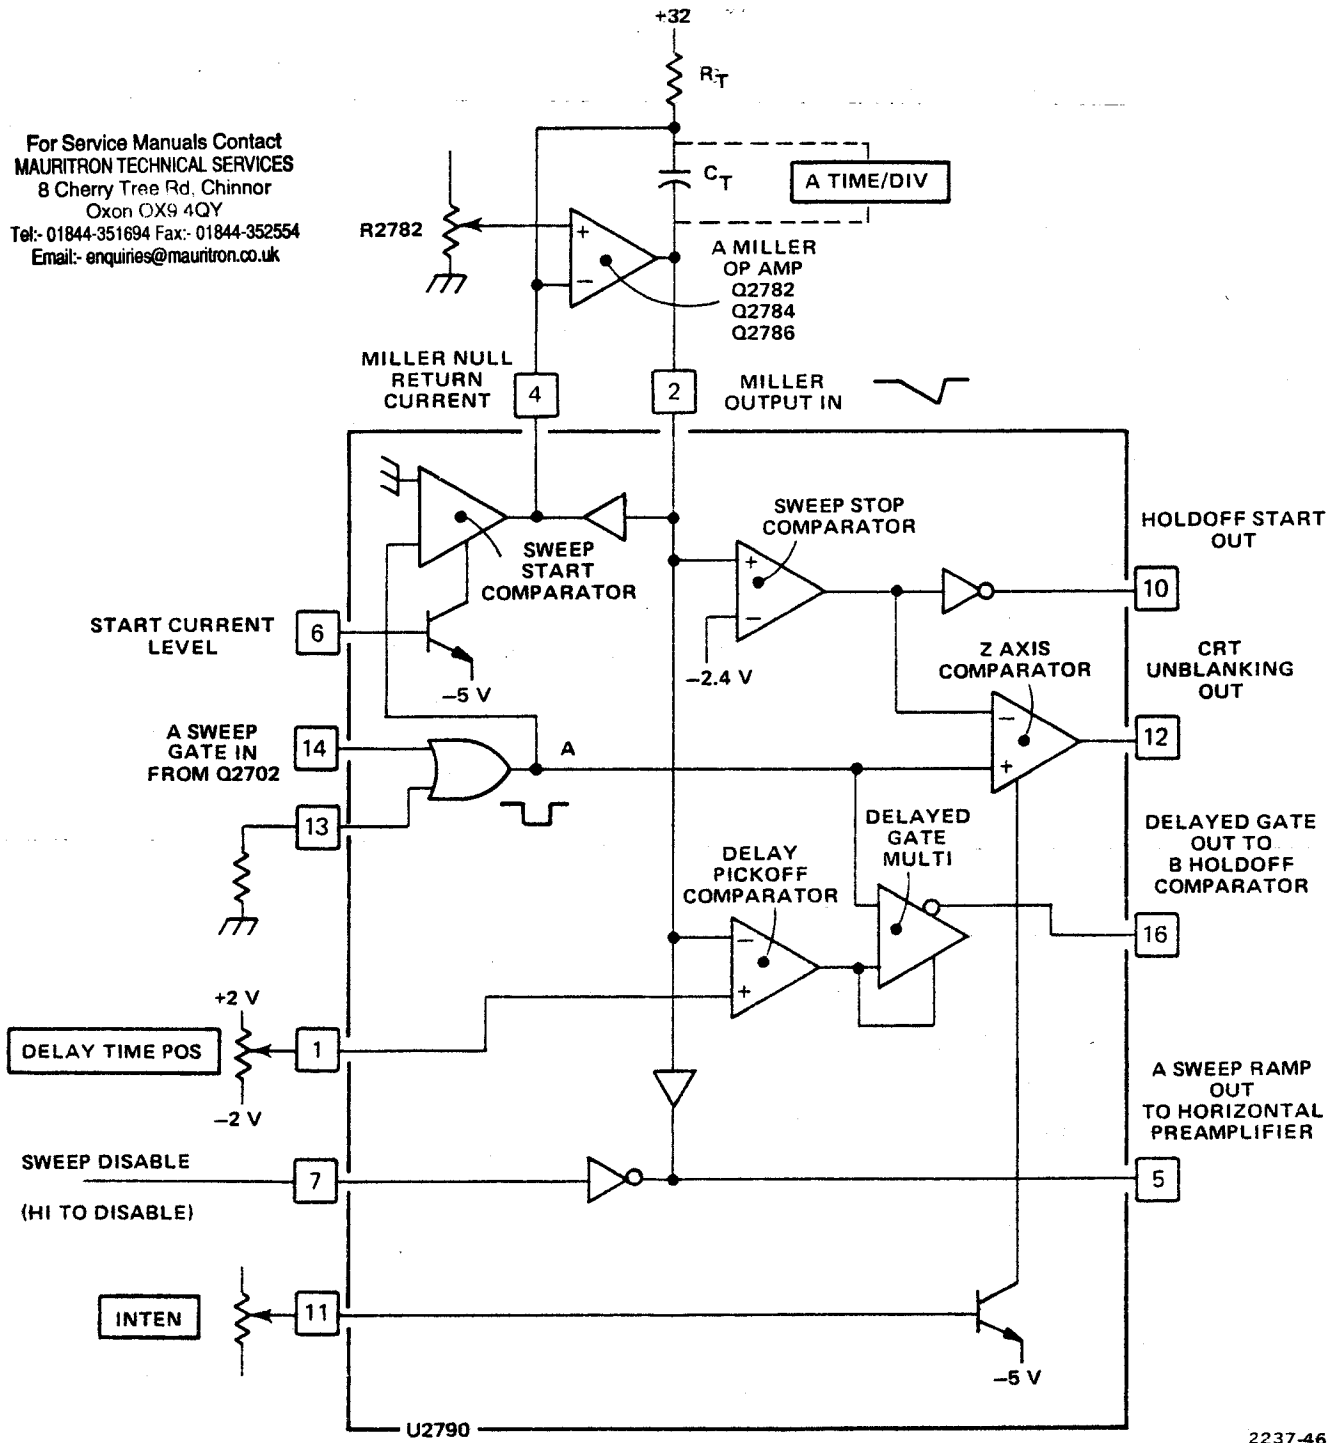

Figure 4-6. Simplified diagram of the A sweep generator.
(4) **A Sweep Generator.** A sweep generator consists of U2790 and associated circuitry. Diagram 5 (FO-7) shows a complete schematic diagram of the circuit. Figure 4-6 shows a simplified diagram of the circuit. Figure 4-7 shows the waveforms produced during A sweep generation.
U2790 is HI. This sets point A (see Figure 4-6) HI. This causes the output of the sweep start comparator to appear as a low-impedance point. The output of the sweep start comparator supplies current through pin 4 of U2782, and through R_T , to set the inverting input of the Miller op amp to the same voltage as the non-inverting input (the sweep
2 At Triggering. Pin 13 is always LO, except in the X-Y mode. When pin 13 is HI, point A (see Figure 4-6) is HI regardless of the state of pin 14. When the sweep gate causes pin 14 to go LO, point A steps LO (see Figure 4-6). This causes the output of the sweep start comparator to become a high-impedance point. The timing capacitor (C_t) starts charging through the timing resistor (R_t).